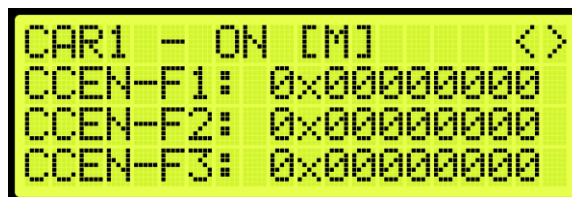

Figure 278: Front Car Call Enable Bitmap Status
15. From the Front Car Call Enable Bitmap Status (See Figure 278), press the right button.